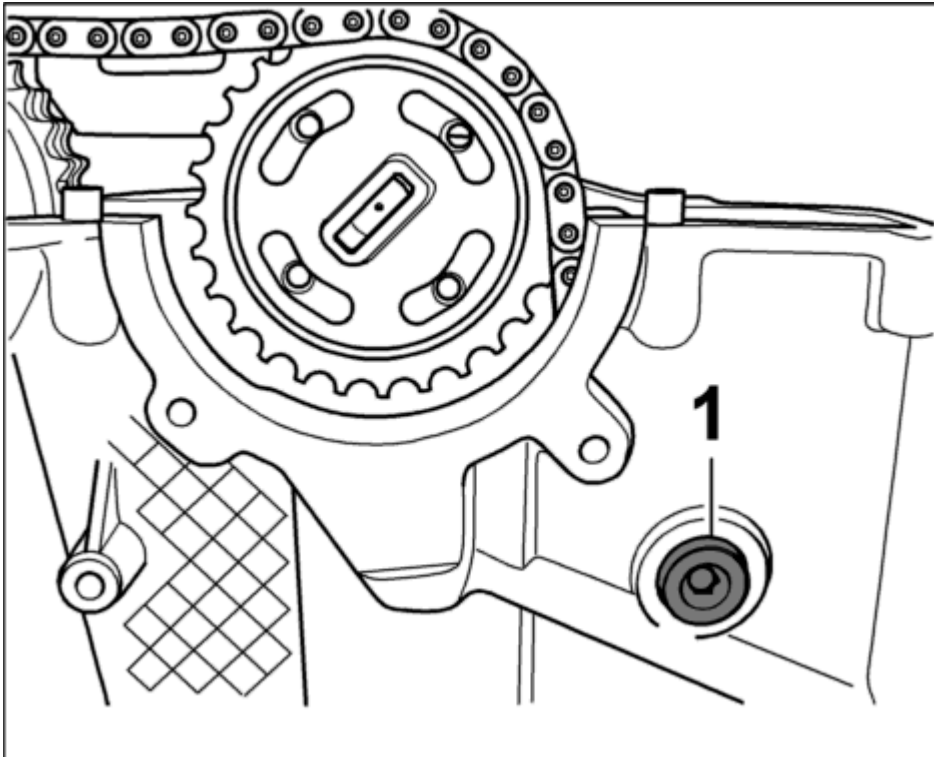

Fig. 177: Guide rail screw for cylinders 4-6
- The threaded bolt for guide rail 4-6 on the cylinder head (belt pulley side) -1- is inserted only after the timing chain has been fitted on the camshaft timing gears. See **Fig. 177**.